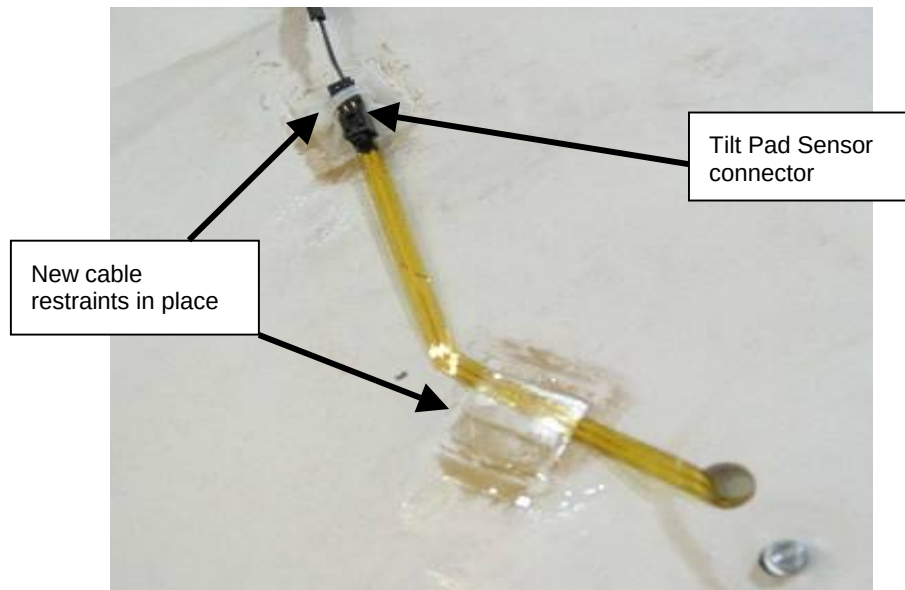

Figure 10 New Tilt Pad Sensor Harness Routing
10. Orient the harness within the restraint as shown in Figure 10. When assembled, it should look like the picture in Figure 10.